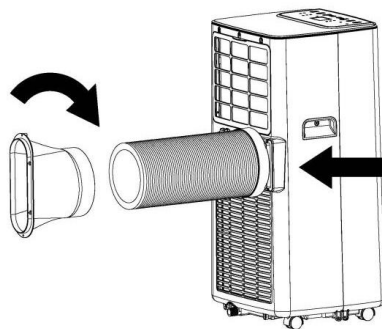

Fig.1
1.1 Install the exhaust pipe assembly (as shown in Fig.1)